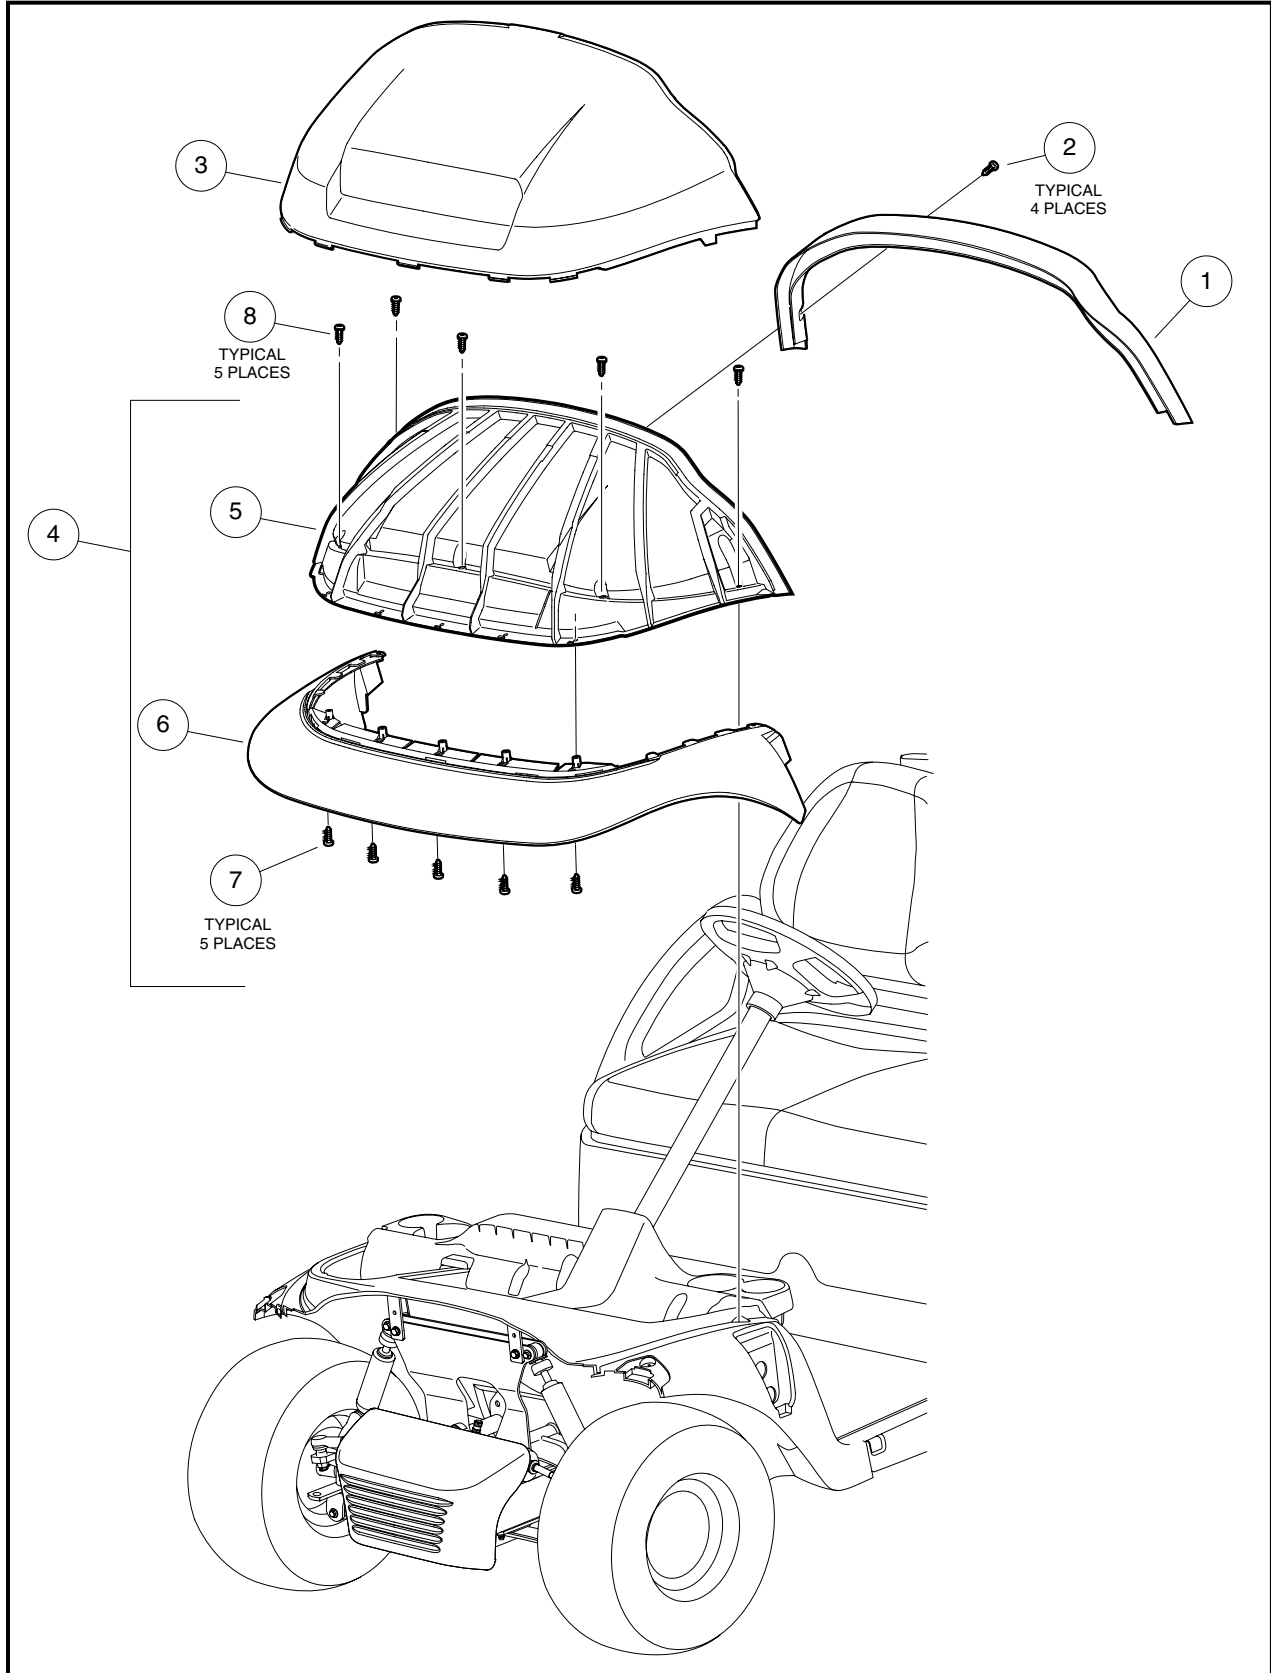

Figure 4-1 Front Body
1. Remove the four screws (2) and pull the brow cap (1) from the brow and fascia assembly (4) (**Figure 4-1, Page 4-4**).
2. Pull the front beauty panel (3) up and away from the brow and fascia assembly (4), disengaging the snap tabs.
4. Remove the five screws (8) and lift the brow and fascia assembly (4) from the front underbody.
5. Remove the five screws (7) to separate the front fascia (6) from the brow (5).